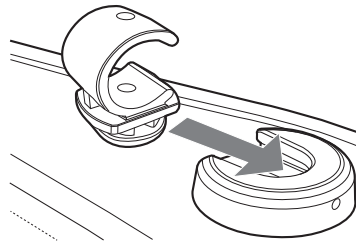

Fig. 30 Fitting the accessory
2. Slide the compatible accessory into the universal accessory clip (Fig. 30).